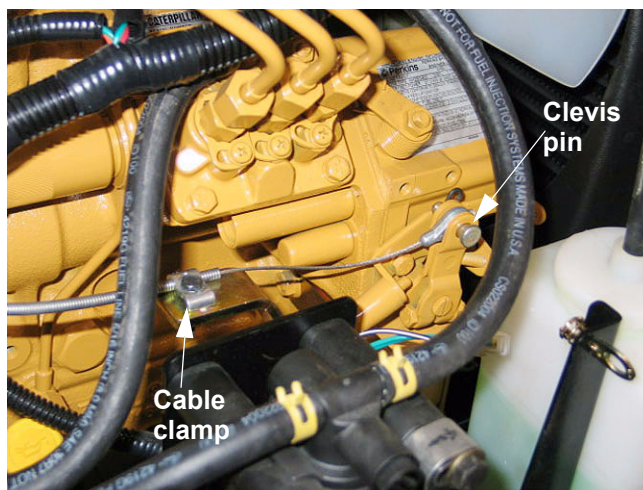

Figure 1.13
- 1.13. Disconnect the throttle cable from the injector pump on diesel powered tractors. On Caterpillar engines, the cable is connected to the pump with a hairpin clip and clevis pin. Use a 5/16" wrench and a 3/8" wrench to loosen the cable clamp. See Figure 1.13.